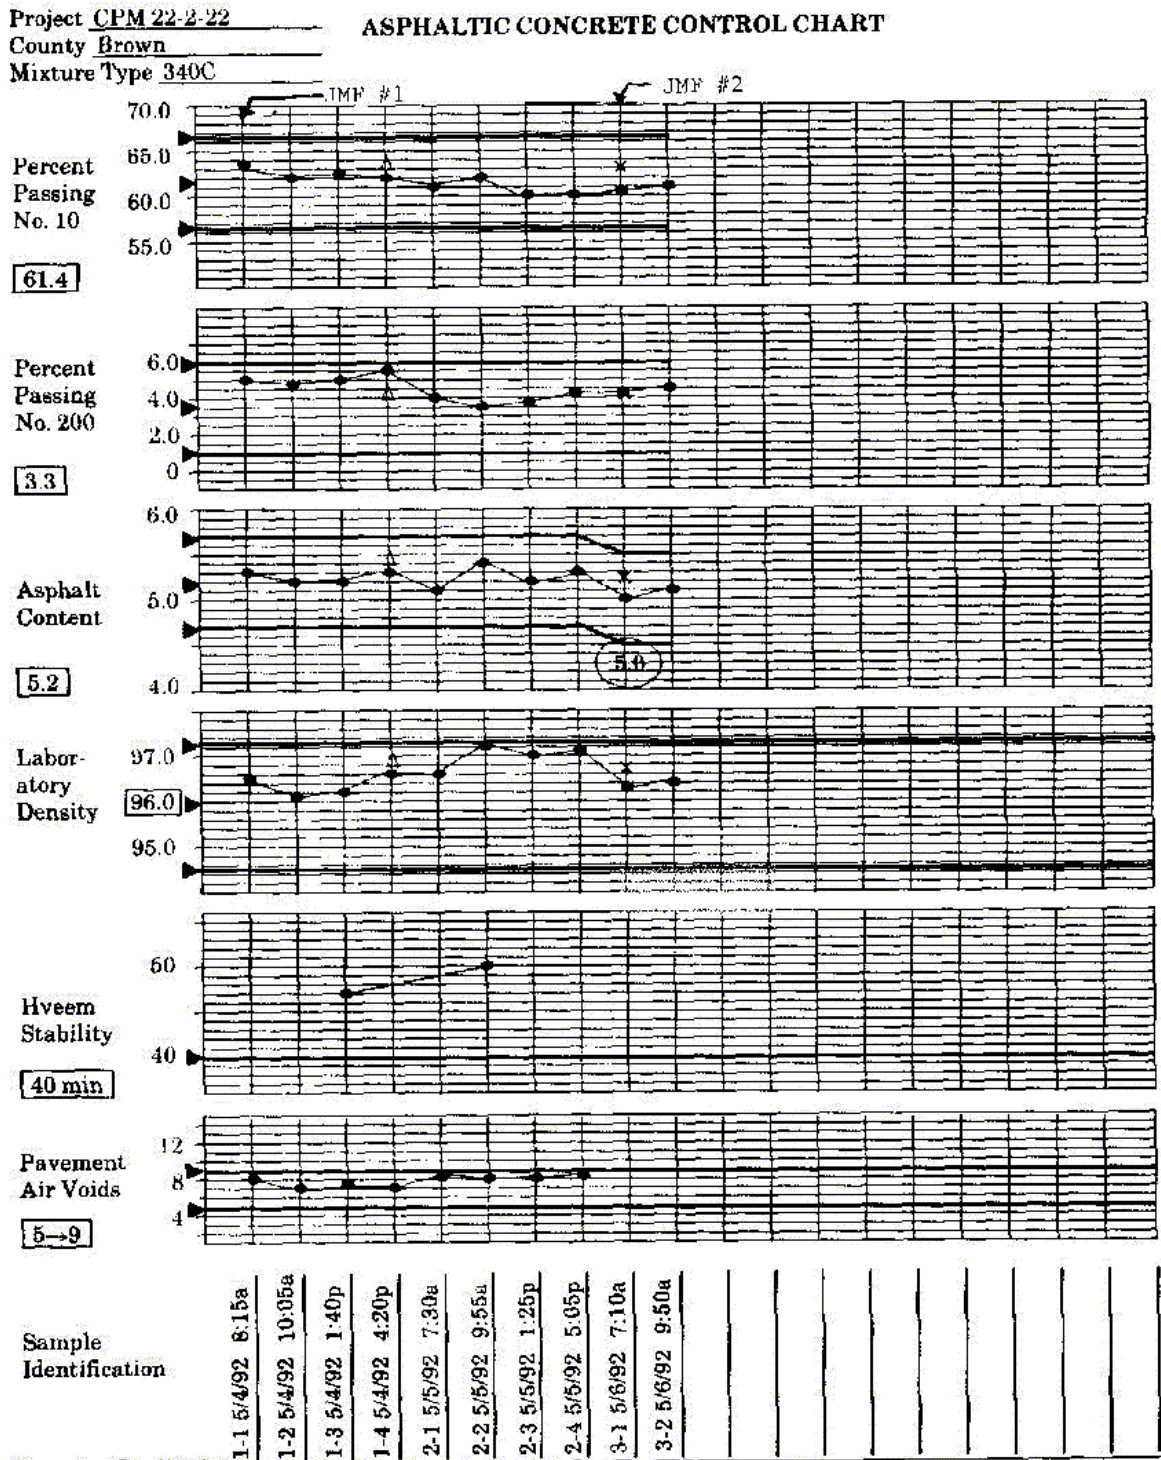

Figure 3—Asphaltic Concrete Control Chart (Example 3)
- 2.6 Note adjustments to the job-mix formula or new job-mix formulas above the first column of data points to which it is applicable. (See Figure 3 for example.)